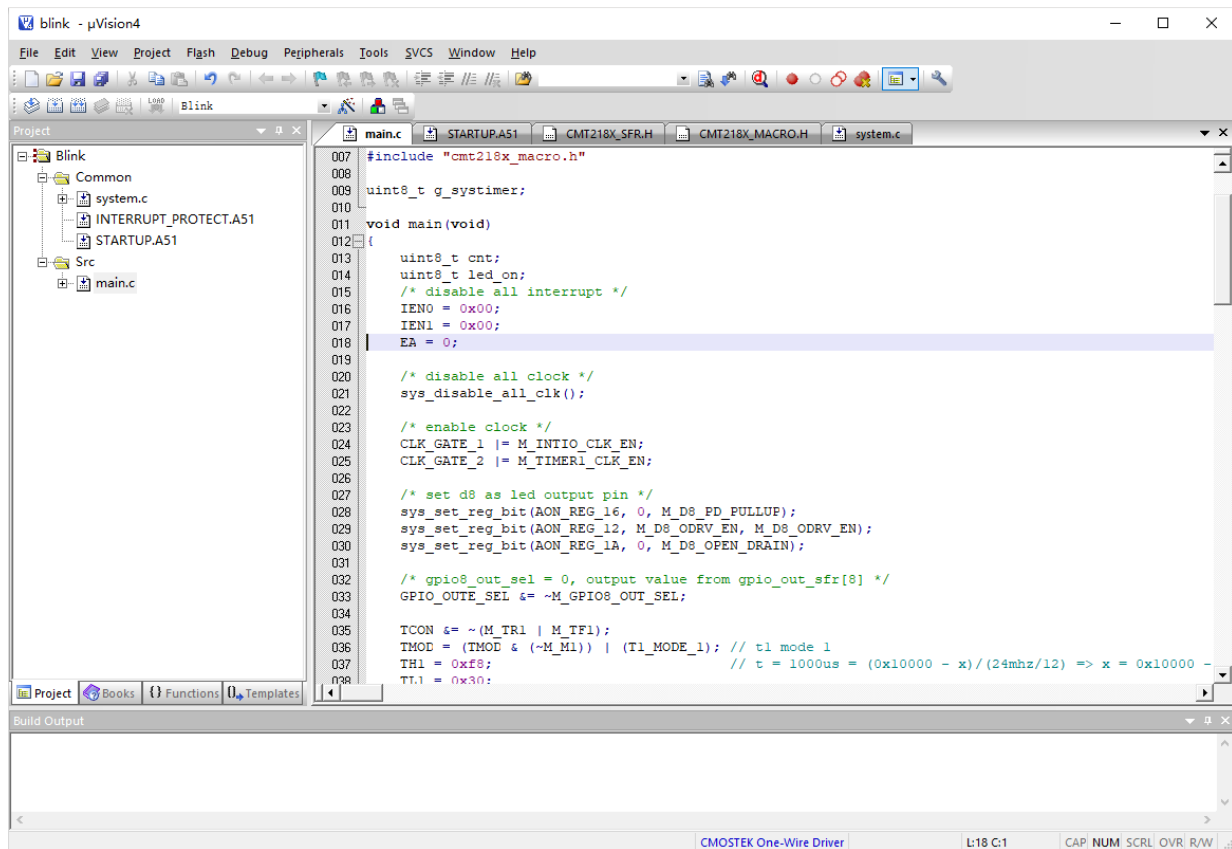

Figure 1-8. Add Main Function File
- Step 6: Setup a main program file (including main function), add it to the project, and then program it to implement related functions, as shown in Figure 1-8 (main.c is the main program file in the figure).